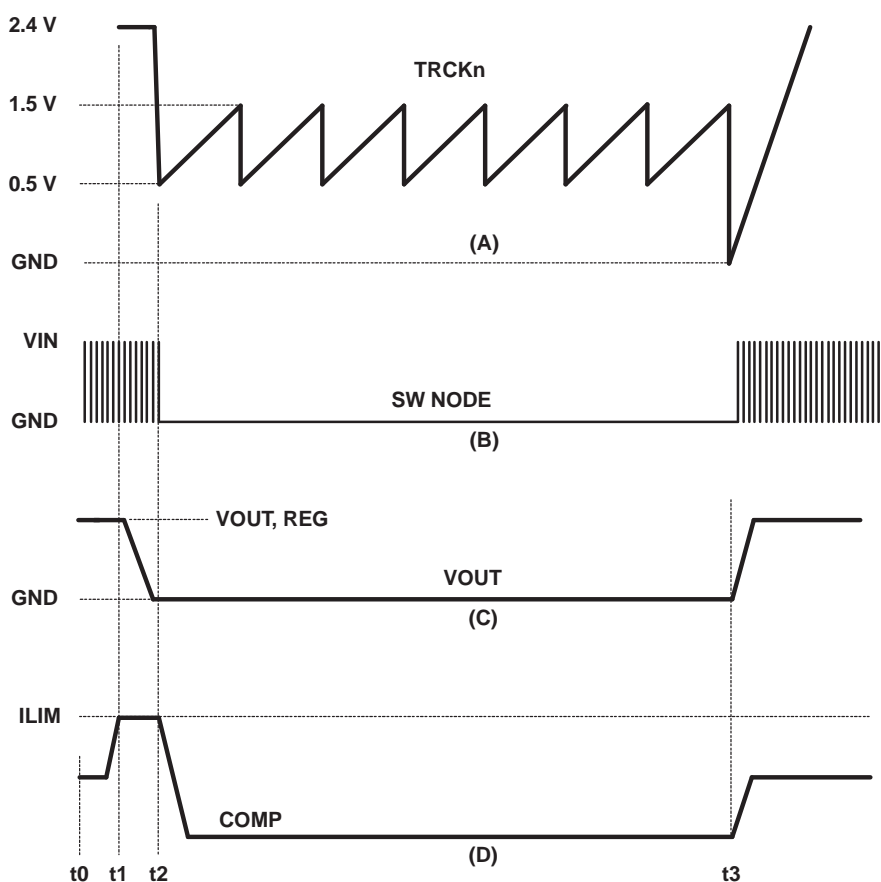

Figure 5-9. Hiccup Mode and Recovery
In order to reduce the input current and component dissipation during an overcurrent event, a hiccup mode is implemented. Hiccup mode refers to a sequence of 7 soft-start cycles where no MOSFET switching occurs and then a re-start is attempted. If the fault has cleared, the re-start results in returning to normal operation and regulation. This is shown in Figure 5-9.
In Figure 5-9, normal operation is occurring between t0 and t1 as shown by V_{OUT} being at the regulated voltage, (C) and normal switching on the SW NODE (B) and COMP at it's nominal level, (D). At t1, an overcurrent load is experienced. The increased current forces COMP to increase to the ILIM level as shown in (D). If the COMP voltage is above the ILIM voltage for 7 switching cycles, the controller enters a hiccup mode. During this time the controller is not switching and the switching MOSFETs are turned off. The TRCKn voltage goes through 7 cycles of charging and discharging the soft-start capacitor. At the end of the 7 cycles the controller attempts another normal re-start. If the fault has been cleared, the output voltage comes up to the regulation level as shown at time t3. If the fault has not cleared, the COMP voltage again rises above the ILIM voltage and the hiccup mode repeats.